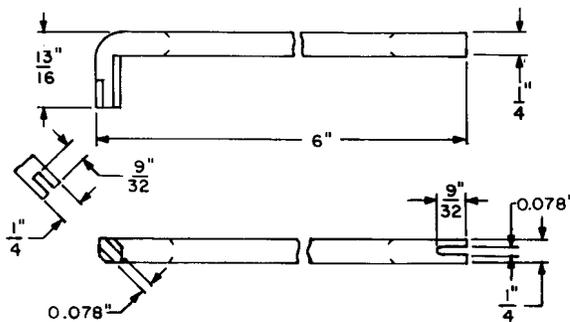

Fig. 19—325B Adjuster Tool
2.19 **325B:** The 325B tool (Fig. 19) is used on clutches, panel elevator apparatus, 200-, 204-, and 206-type selectors, and panel multiple bank guide combs. The 325B tool replaces the 325 tool.